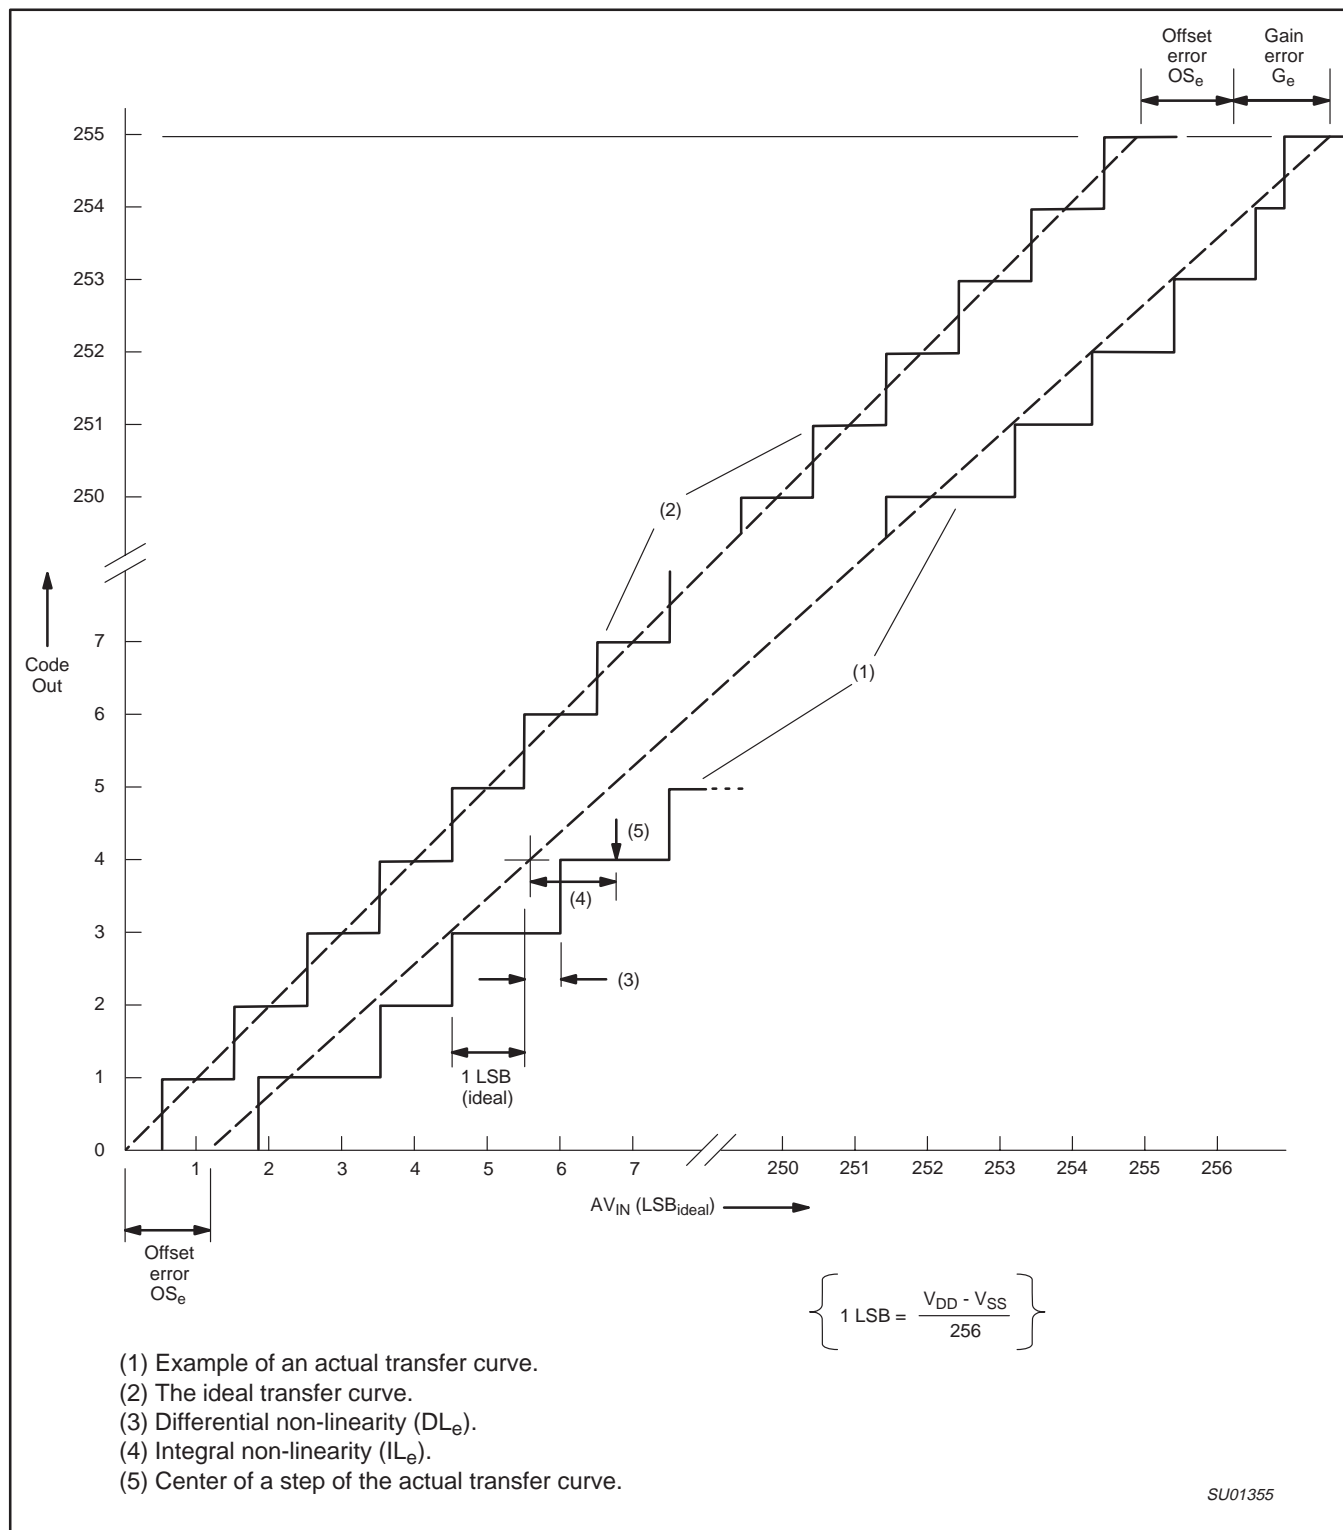

Figure 41. A/D Conversion Characteristics
3. The differential non-linearity (DL_e) is the difference between the actual step width and the ideal step width. See Figure 41.
4. The integral non-linearity (IL_e) is the peak difference between the center of the steps of the actual and the ideal transfer curve after appropriate adjustment of gain and offset errors. See Figure 41.
5. The offset error (OS_e) is the absolute difference between the straight line which fits the actual transfer curve (after removing gain error), and the straight line which fits the ideal transfer curve. See Figure 41.
6. The gain error (G_e) is the relative difference in percent between the straight line fitting the actual transfer curve (after removing offset error), and the straight line which fits the ideal transfer curve. Gain error is constant at every point on the transfer curve. See Figure 41.